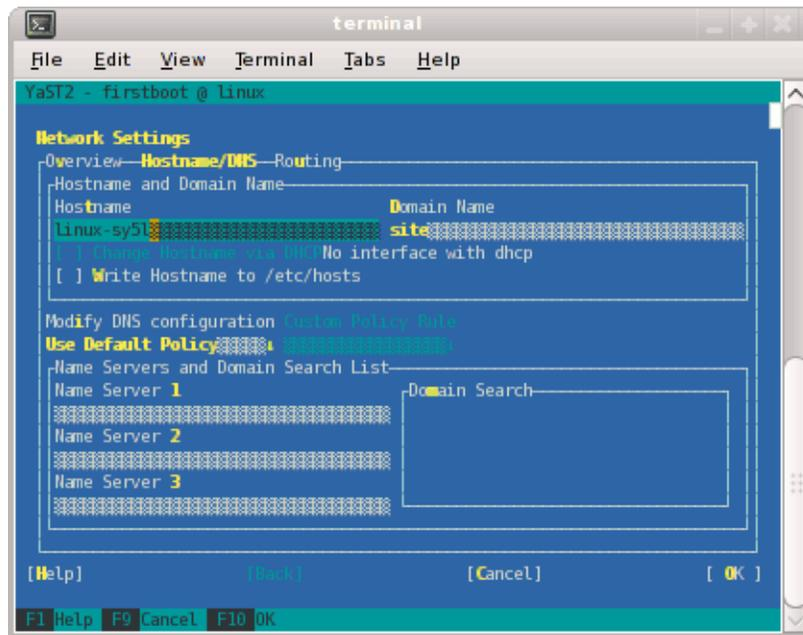

Figure 1-11 Network Settings Screen
- At this point, you are back at the **Network Settings** screen as shown in Figure 1-11 on page 18. At this time, select **Hostname/DNS**. In this screen, you should enter your house/public network hostname and fully qualified domain names. In addition, any name servers for your house/public network should be supplied. Please select (ensure an x is in the box) for **Write hostname to /etc/hosts**. Do not select **OK** yet.